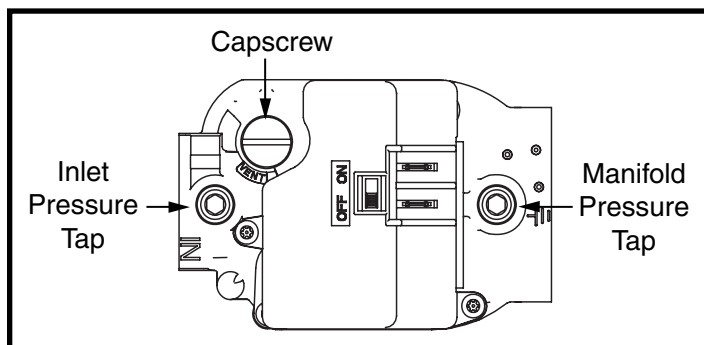

Figure 8. Regulator Capscrew & Tap Locations
2. Remove the regulator capscrew (Figure 8) from the INLET side of the regulator.